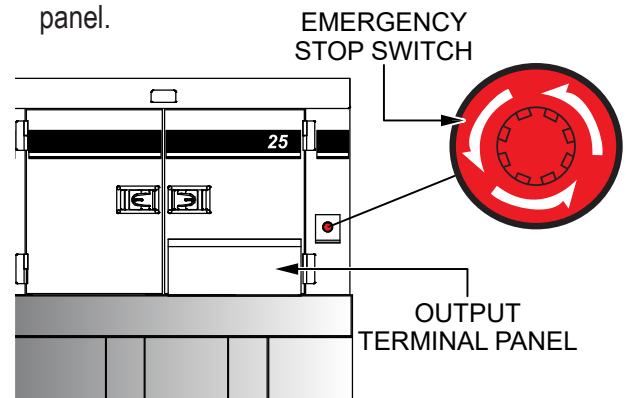

Figure 22. Emergency Stop Switch
1. To stop the engine in the event of an emergency, press the **Emergency Stop switch** (Figure 22), located on the side of the generator next to the output terminal panel.